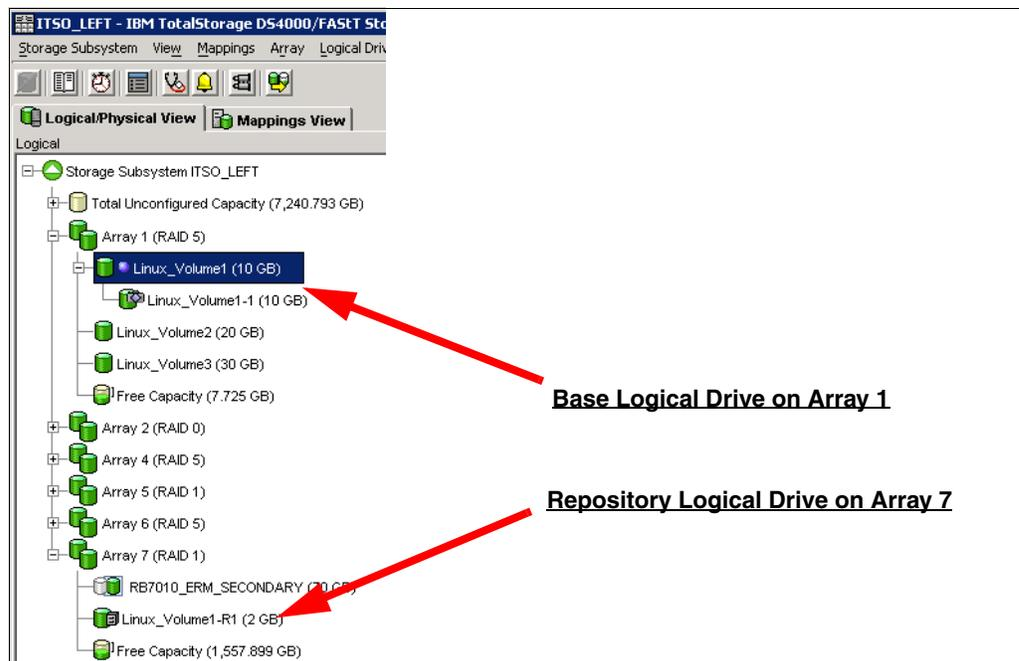

Figure 7-21 Repository logical drive on different array
- f. You can now view the newly created FlashCopy logical drive and its associated repository logical drive from the Subsystem Management window. Figure 7-21 is an example in which the repository logical drive is allocated from a different array than the base logical drive.